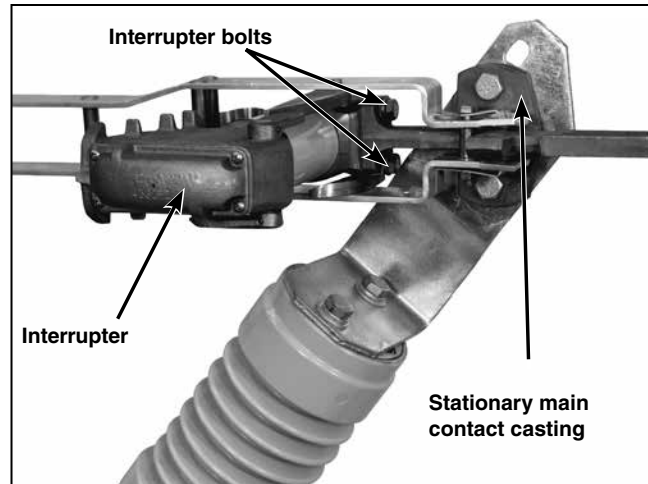

Figure 39. Adjusting the interrupter position.
- (f) If adjustment is required, loosen the bolts that fasten the interrupter to the stationary main contact casting, and reposition the interrupter. See Figure 39.